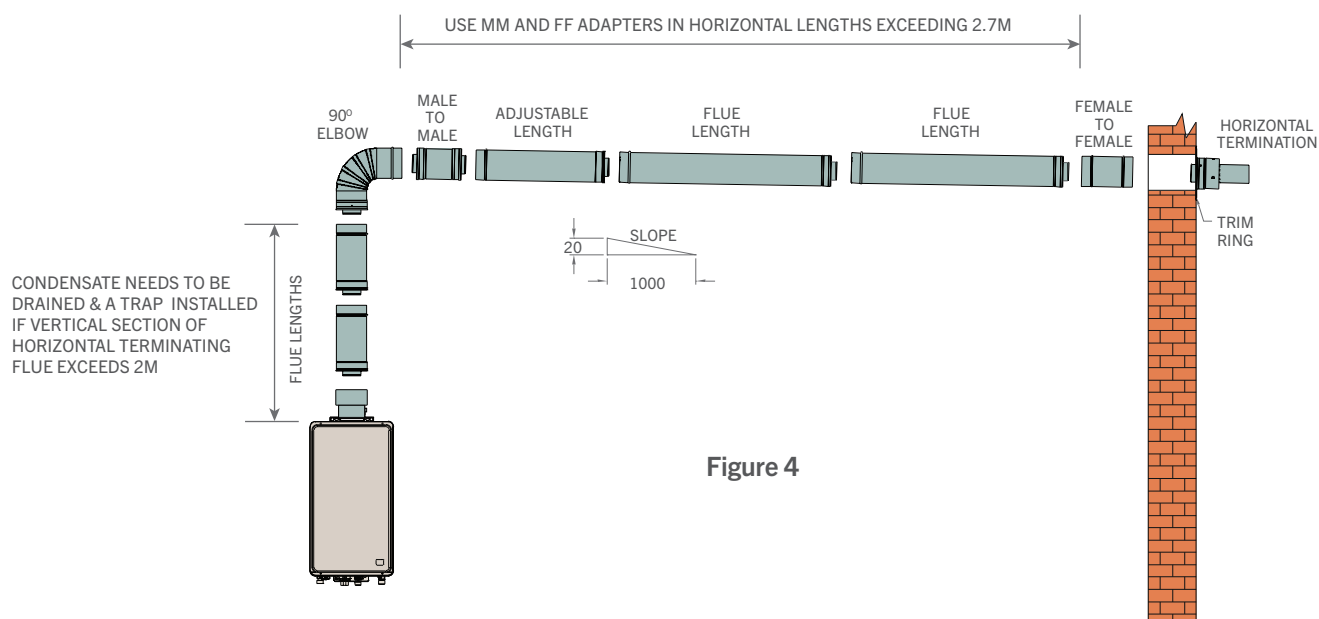

Figure 4
- Horizontal through the wall flue systems are to be oriented with a slope towards the terminal to drain any condensate which may form in the flue way and prevent any rain from draining into the flue/building. A condensate tube and trap assembly **MUST NOT** be connected, see Fig 4
- Where vertical sections exceeding 2m are incorporated in a through the wall flue system, Condensate tube and trap assembly **MUST** be used, see Fig 4
These adapters reverse the direction of the flue insertion and allow condensate to drain to the horizontal terminal without any obstruction/pooling, see Fig 4.